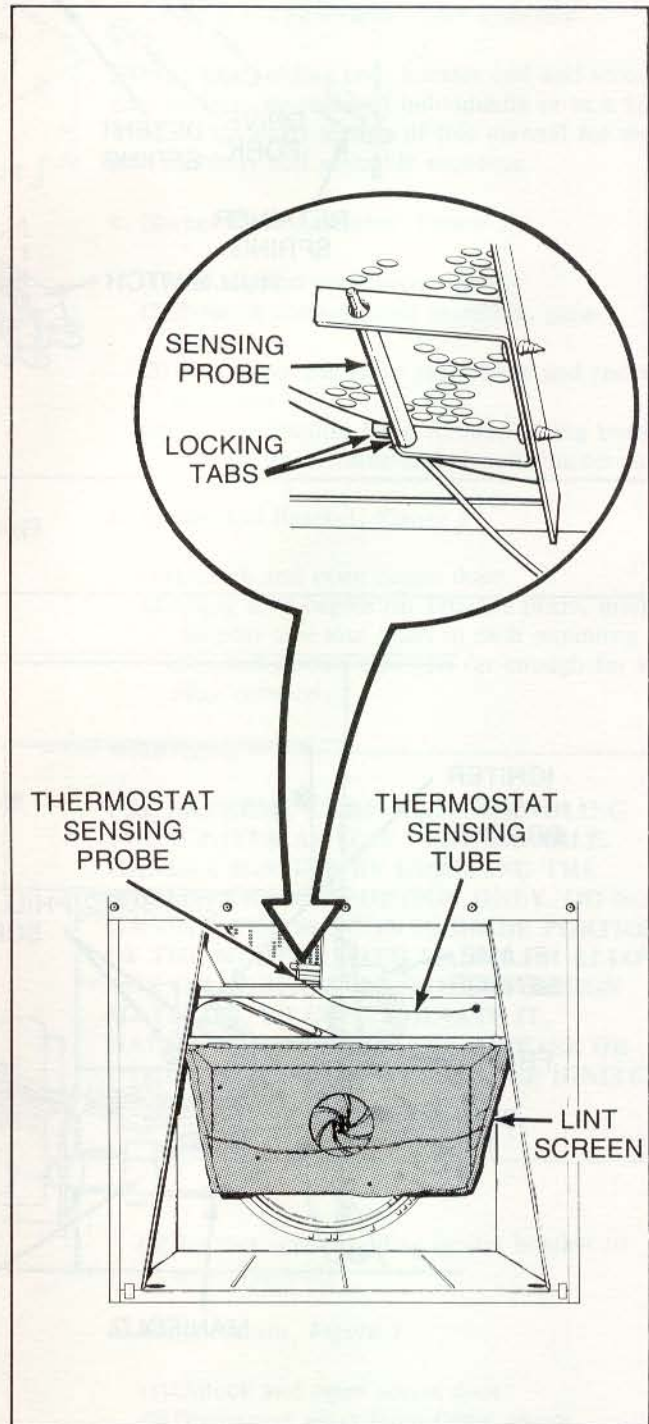

Figure 8
- h. Spread locking tabs on sensing probe bracket, *Figure 8*.